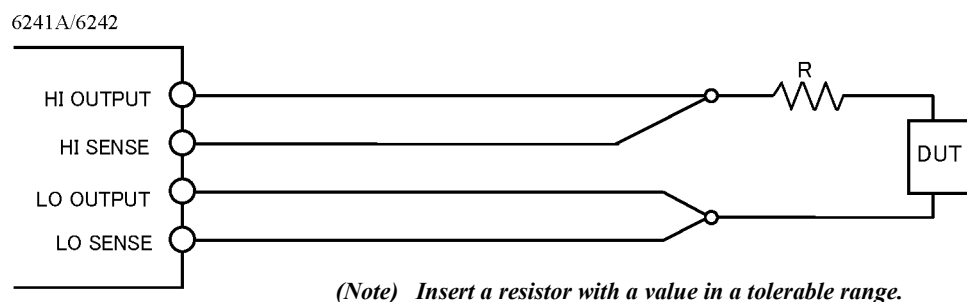

Figure 5-5 6241A/6242 Oscillation Countermeasures
4. If the oscillation does not stop even if the cables are the shortest possible, insert an allowable resistor for a load as shown in Figure 5-5.